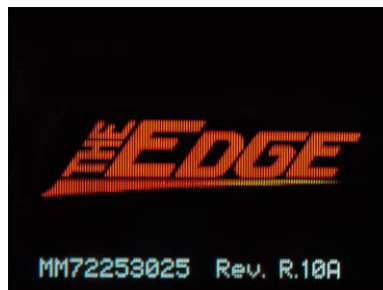

Figure 4-5: Splash screen
3. When the splash screen appears, press and **hold** the **Power (On/Off)**  and the **Enter**  buttons until the splash screen disappears (see Figure 4-5 for splash screen.)